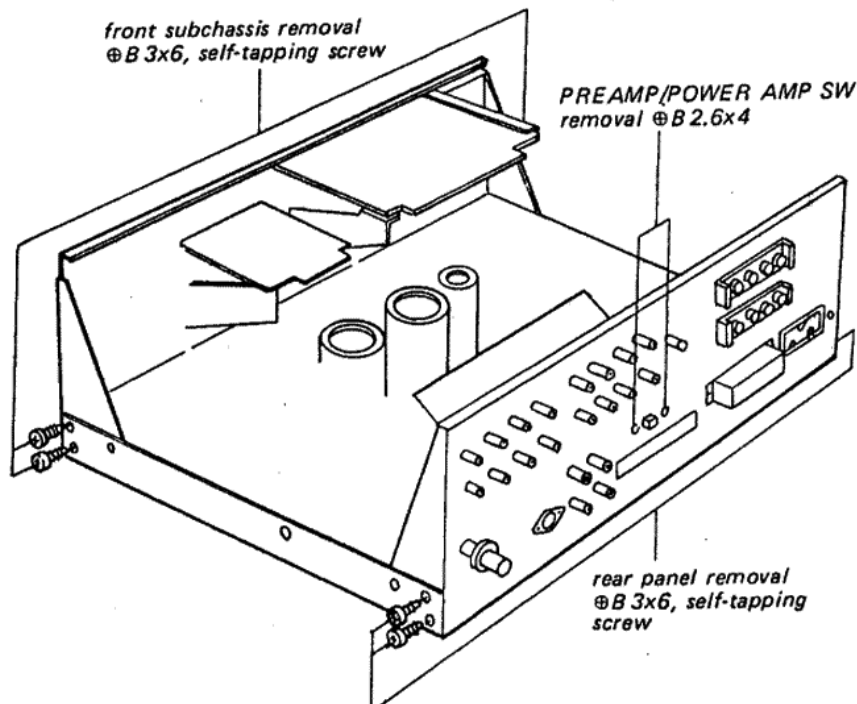

Fig. 2-4. Front subchassis removal
2. Remove the two self-tapping screws (⊕ B 3x6) at each side of the chassis (see Fig. 2-4) and four self-tapping screws (⊕ B 3x6) at the front bottom of the chassis as shown in Fig. 2-3. This frees front subchassis.
2. Remove the two self-tapping screws (⊕ B 3x6) at each side of the chassis (see Fig. 2-4) and four self-tapping screws (⊕ B 3x6) at the rear bottom of the chassis as shown in Fig. 2-3. This frees rear panel.
2. Remove the two screws (⊕ B 2.6×4) securing the switch to the rear panel as shown in Fig. 2-4.